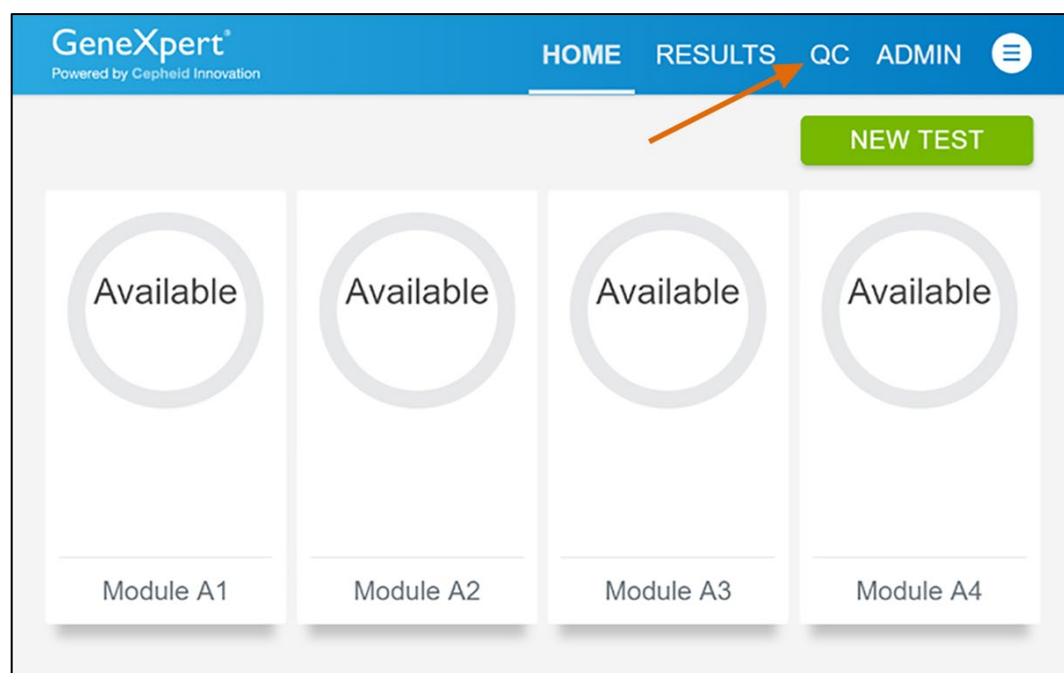

Figure 23. Home Screen
- If otherwise required by your institution's standard Quality Control (QC) procedures.
1. Put on a new pair of gloves if performing a new test. Touch the **QC** button on the Home screen (see Figure 23).